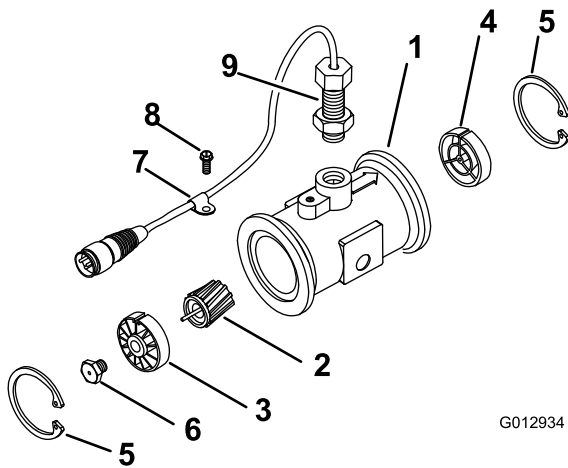

Figure 11
3. Remove the retainer ring on the upstream side (Figure 11).